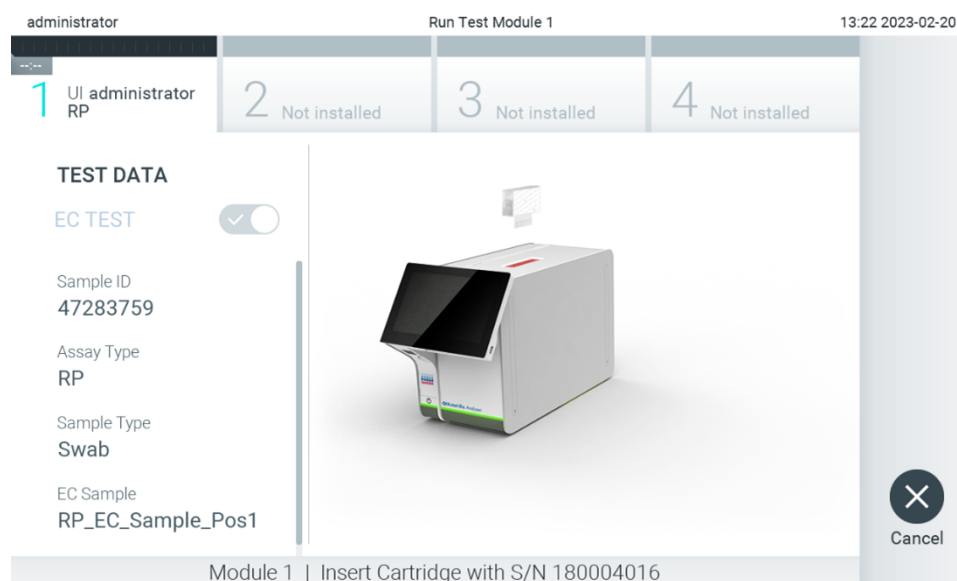

Figure 97. Inserting QIAstat-Dx assay cartridge into QIAstat-Dx Analyzer 2.0.
9. Make sure that both sample lids of the swab port and main port of the QIAstat-Dx assay cartridge are firmly closed. When the cartridge entrance port on the top of QIAstat-Dx Analyzer 2.0 automatically opens, insert the QIAstat-Dx assay cartridge with the bar code facing to the left and the reaction chambers facing down (Figure 97).